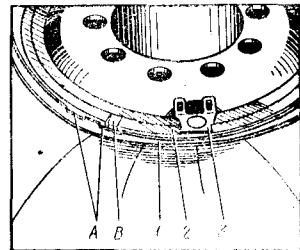

Fig. 90. Position of Lock and Outer Bead Rings of Wheel 254Г-508:
5. Locate the bead and lock rings, aligning mark *B* on the lock ring with one of the slots *A* on the bead ring (Fig. 90).